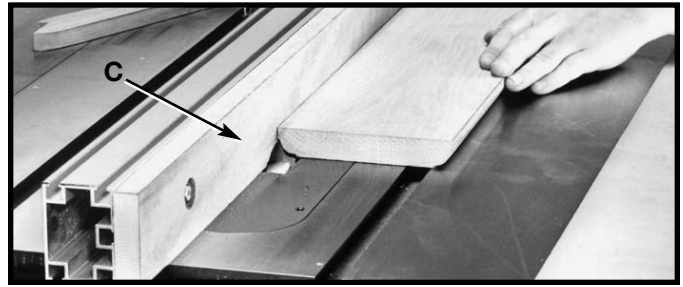

Fig. 84
2. When using the moulding cutterhead, add wood-facing (C) Fig. 84 to the face of the rip fence. The wood-facing is attached to the fence with wood screws through holes which must be drilled in the fence. Stock that is 3/4" inch thick is suitable for most work, although an occasional job may require 1 inch facing.
3. Position the wood-facing over the cutterhead with the cutterhead below the surface of the table. Turn the saw on and raise the cutterhead. The cutterhead will cut its own groove in the wood-facing. Fig. 84 shows a typical moulding operation.